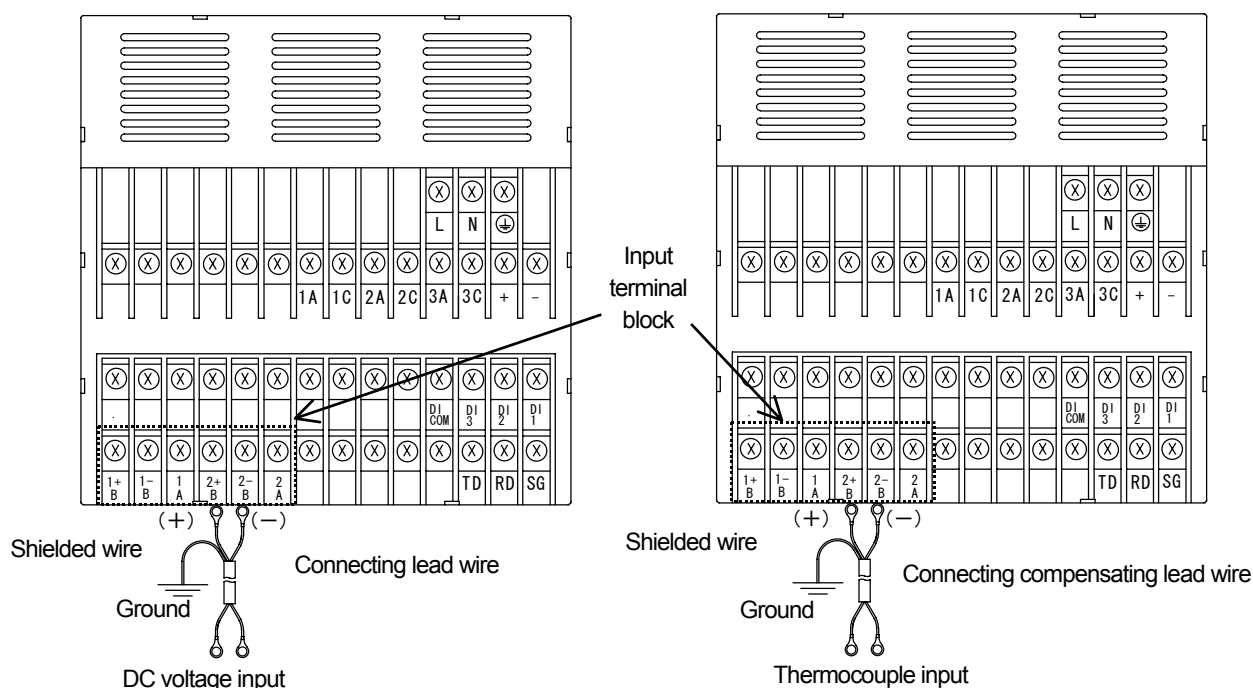
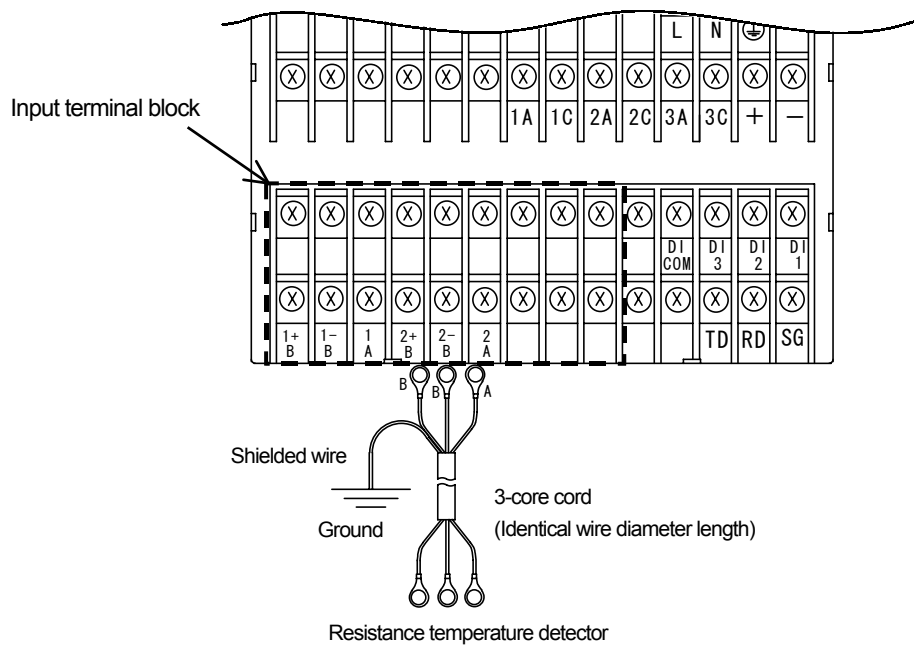
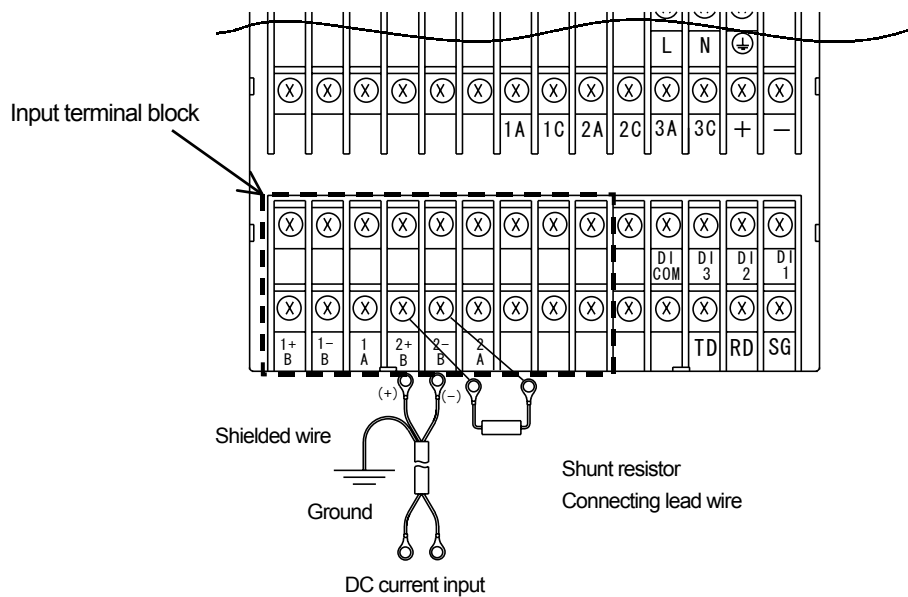

Fig. 4.3 Input Wiring (For mV, V and Thermocouple inputs)
Fig. 4.4 Input Wiring (For Resistance temperature detector)
Fig. 4.5 Input Wiring (For mA input)
- 2) Wire the input lines referring to Fig. 4.3, Fig. 4.4 and Fig. 4.5 (Page 19).